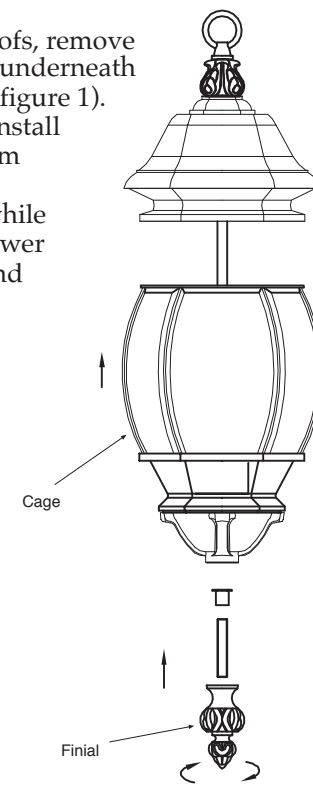

Figure 3
- For other fixtures, unscrew bottom finial while securing the cage so that it doesn't fall. Lower the cage and insert bulbs. Reattach cage and tighten bottom finial. (see figure 3).